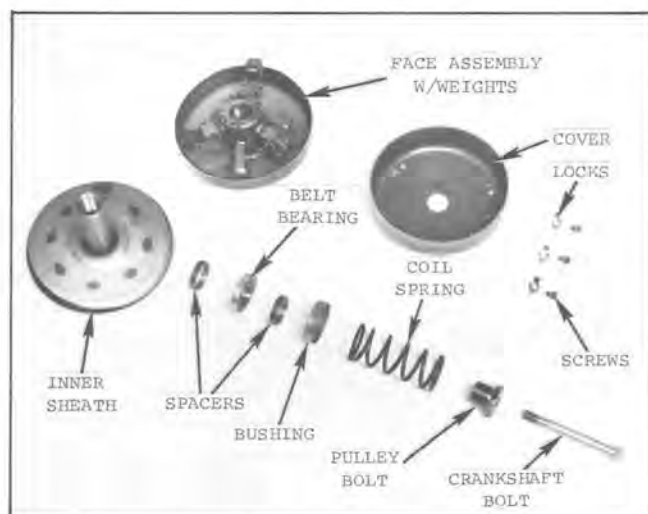

Fig. 59 — Drive Pulley Used on L 380 Engine — Identification of Parts
1. If drive pulley is the one used on the L 380 engine, proceed as follows (refer to Fig. 59):